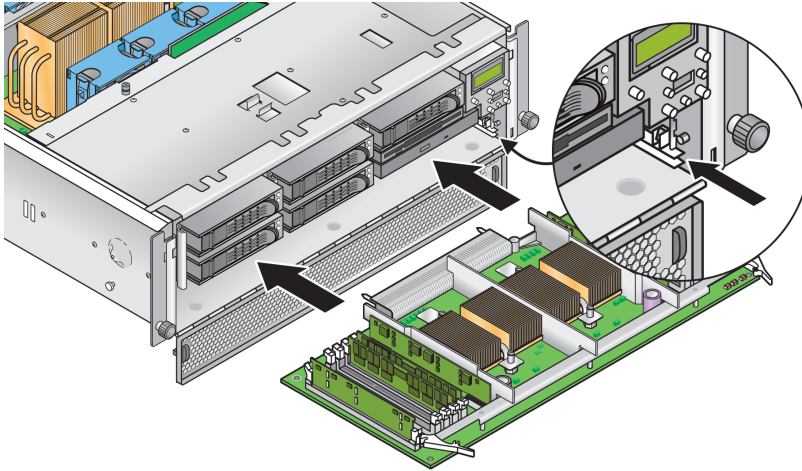

FIGURE 17 Installing the CPU Card Into the Chassis
14. Replace the CPU card into the server (see FIGURE 17):